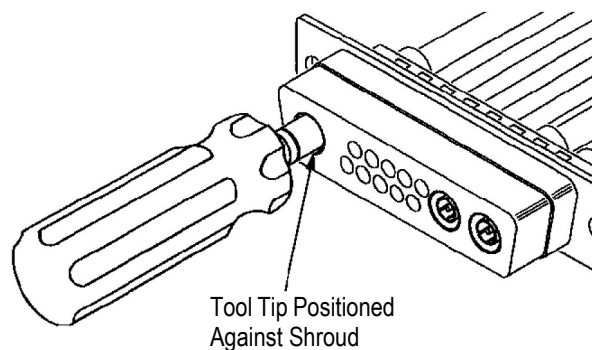
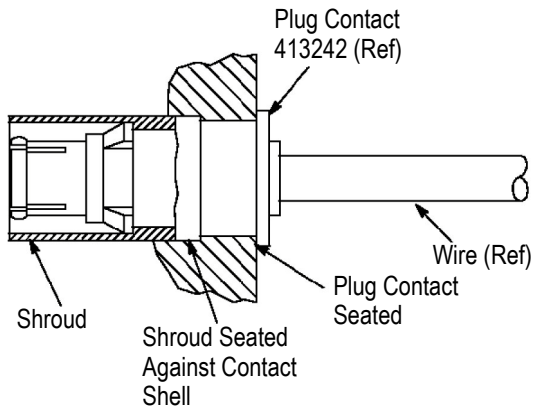

Figure 3
Figure 4
2. Position the tool tip against the shroud; then push the tool toward the plug contact to snap the shroud into place. See Figure 3. The plug contact must stay seated against the rear face of the connector insert while pushing the shroud into place. See Figure 4.
3. Pull back on the wire to ensure that the shroud is fully seated on the contact. The shroud is properly installed if it is seated against the shell of the contact. See Figure 4.